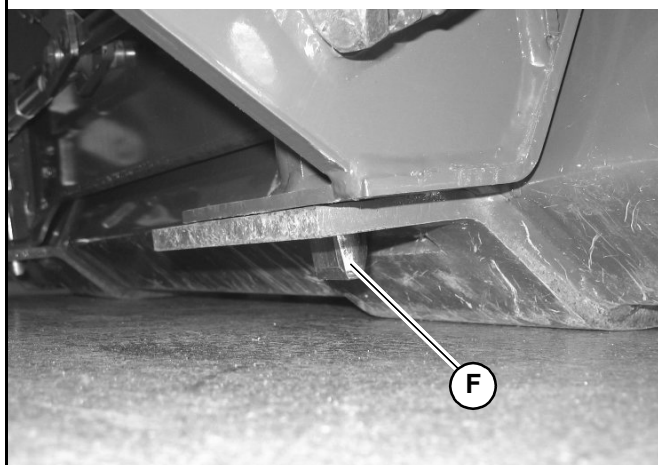

Fig. 69 – Attachment Locking Pins
- Power-A-Tach® system hitch – Press the top of hitch lock switch (I) until safety flags (H) have moved all the way out.
- Manual attachment hitch – move hitch lock lever all the way to the left (G).
7. Make sure the locking pins (F, Fig. 69) are fully engaged down through the holes in the attachment.